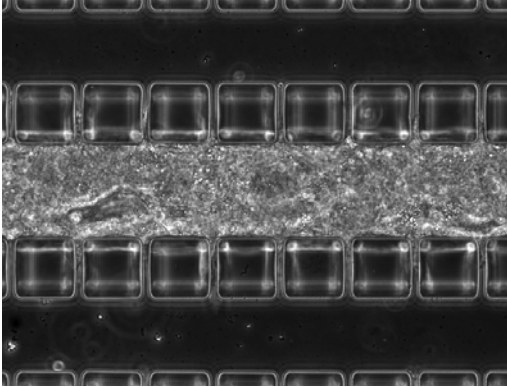

Figure 5. Human hepatocytes cultured after 7 days with perfusion
16. Typically, after 2-4 days of perfusion culture, hepatocytes will adopt an aggregate morphology and recover metabolic (CYP450) activity (Figure 5). If the cells are free from contamination and fed daily, viability and activity will persist for over 1 month.